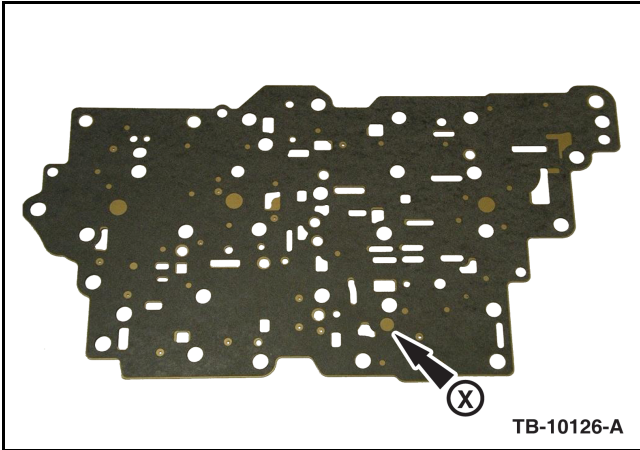

Figure 1 - Article 11-12-10
4. Replace both separator plates listed in the Parts List. The X identifies the hole in the valve body separator plate which will be eliminated. (Figure 1)